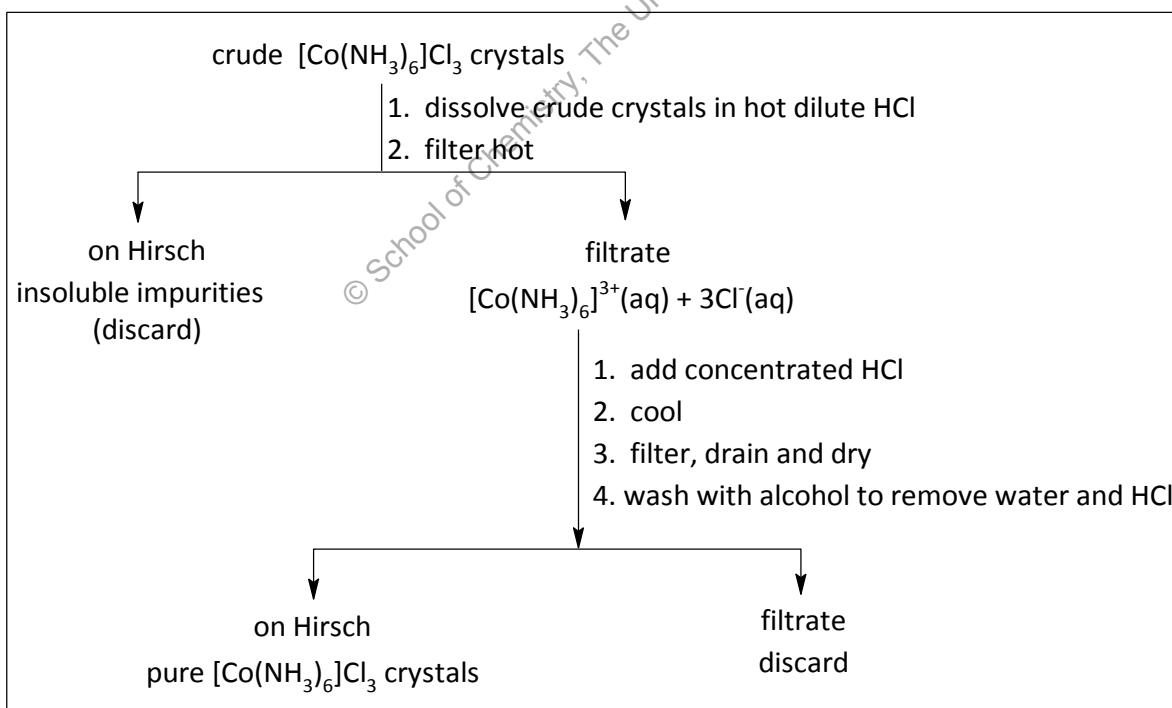

Figure 12.3 Purification of crude  $[\text{Co}(\text{NH}_3)_6]\text{Cl}_3$  by recrystallization.
- i. The flow chart in Figure 12.3 outlines the procedures to be used in the purification of the crude  $[\text{Co}(\text{NH}_3)_6]\text{Cl}_3$ .